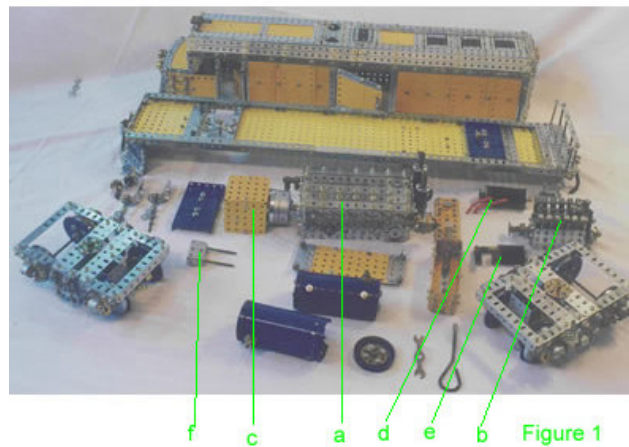

Figure 1: The model broken down into its component units
- **Partial list** - all the parts needed to build the loco, excluding the following components (see Figure 1): (a) Main motor, (b) Head end motor, (c) Main generator, (d) Head end generator, (e) Air compressors and (f) Power distribution board.